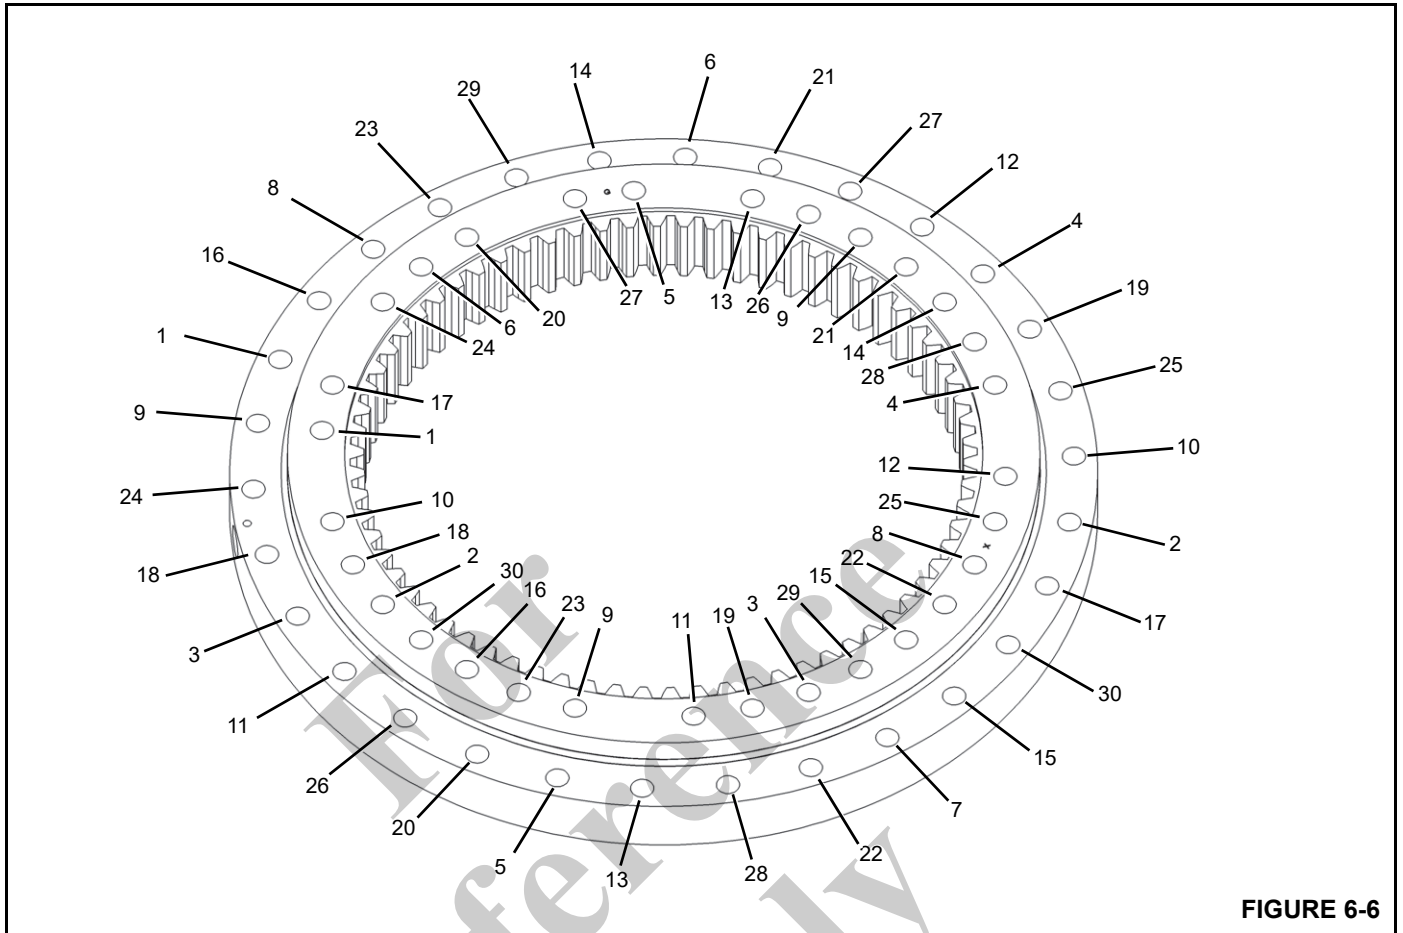

FIGURE 6-6
The inner race of the bearing is secured to the turret by 30, one inch, Grade 8 bolts (Figure 6-6). The outer race of the bearing is secured to the frame by 30, one inch, Grade 8 bolts (Figure 6-6).
3. Torque all bolts to 80% of the full torque value of 908 Nm \pm 35 Nm (670 lb-ft \pm 26 lb-ft) following a star pattern sequence as shown in (Figure 6-6) starting with bolt number 1.
3. Torque all bolts to 80% of the full torque value of 908 Nm \pm 35 Nm (670 lb-ft \pm 26 lb-ft) following star pattern sequence as shown in (Figure 6-6) starting with bolt number 1.